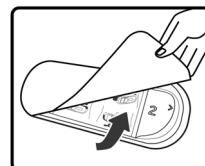

Figure 1. Opening the package
4. Gently pull the sealing foil in the direction of the arrow to open the package. Remove the PillCam Genius link device from the protective case, refer to Figure 1.